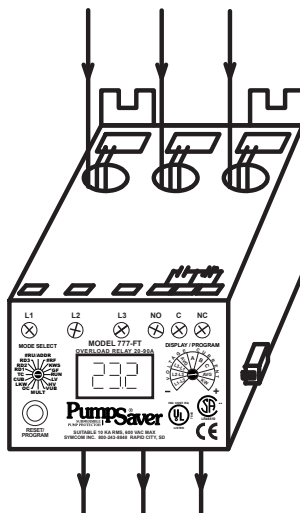

FIGURE 2: LOOPING EXAMPLE SHOWING 3 CONDUCTORS (2 LOOPS) WITH A MULT OF 3
- 2.2 For amperages less than 26 amps, loop the motor conductors according to Table 1. Figure 2 shows an example of the looping required for current ranging from 8.1 to 12 amps (MULT=3).
EXTERNAL CTs REQUIRED. SEE FIGURE 2 FOR WIRING EXTERNAL CTs.